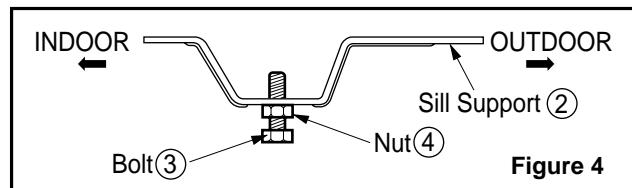

Figure 4
3. Loosely assemble the sill support using the parts in Figure 4.
4. Select the position that will place the sill support near the outer most point on sill (See Figure 4)